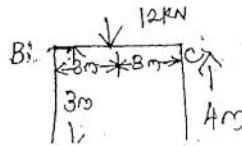

Figure-4
4. Analyse the portal frame in figure-4 by strain energy method. EI is constant.